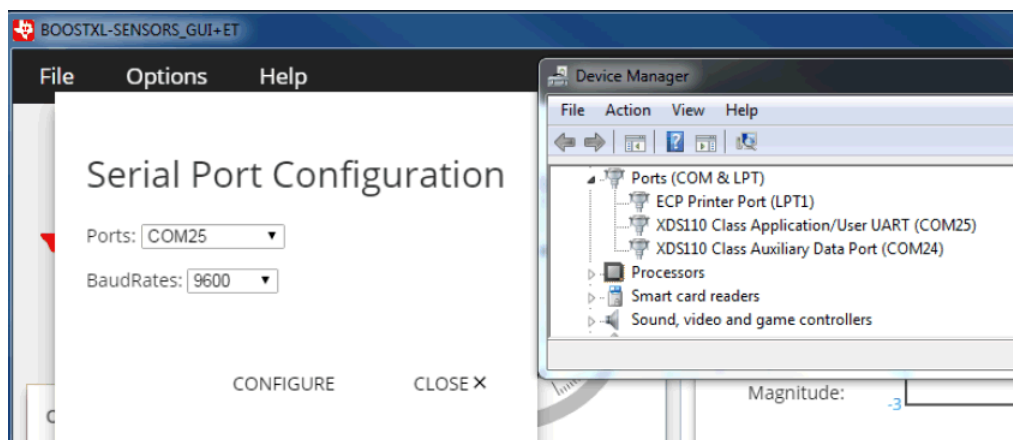

Figure 22. Setting up COM Port Configuration for the LaunchPad™ Development Kit
- If needed, go to "Options" and select the proper COM Port for the Application UART and the baud rate as 115200 (see Figure 22).